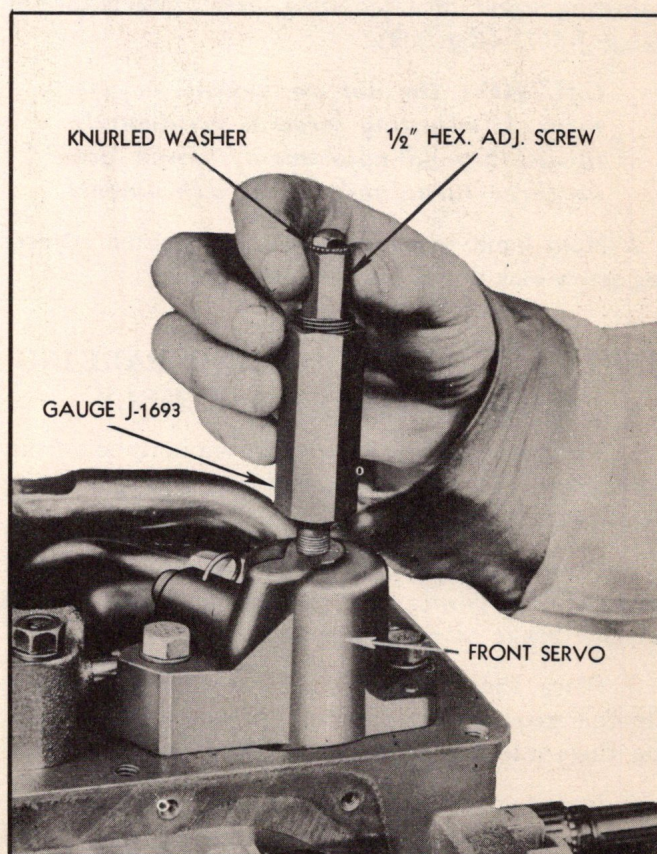

Fig. 307—Adjusting Front Band
1. Remove the pipe plug from front servo, using a $\frac{7}{16}$ " six-point socket. Loosen "hex" adjusting screw of gauge J-1693, until approximately $\frac{1}{8}$ " of threads are exposed above gauge body. Install gauge, tightening by hand only (Fig. 307).